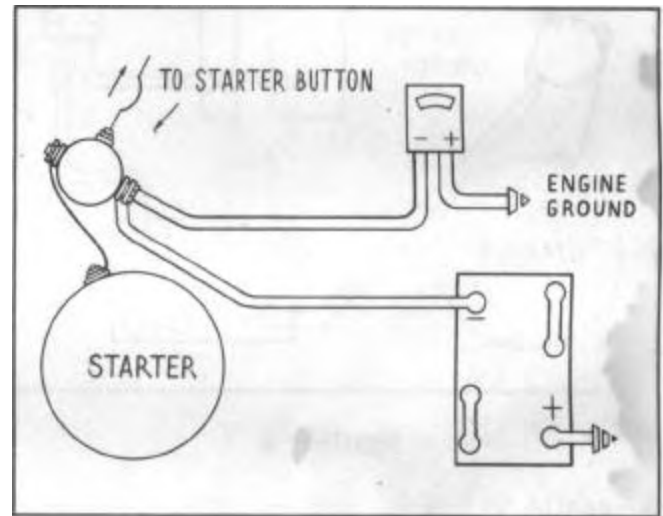

FIGURE 3
1. Connect the negative voltmeter lead to the starter switch terminal (where the battery to starter cable is connected), Figure 3.